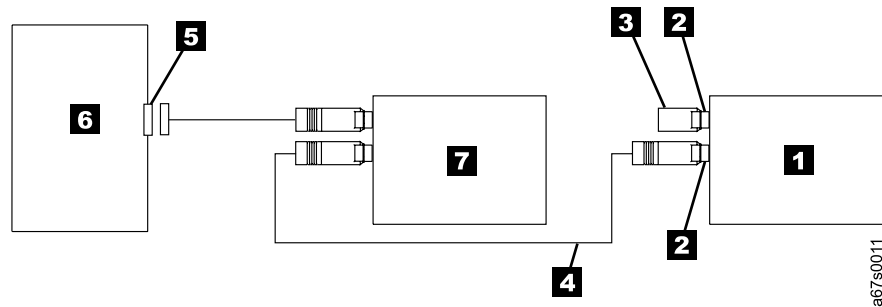

Figure 5. Example of connecting multiple SCSI devices to the server. The view is from the top.
- **If the 3581 Tape Autoloader Is One of Multiple Devices On the SCSI Bus:** connect the SCSI bus cable to the next device on the bus, move the terminator to the last device on the bus, then issue the host command to resume operation (see Figure 5).